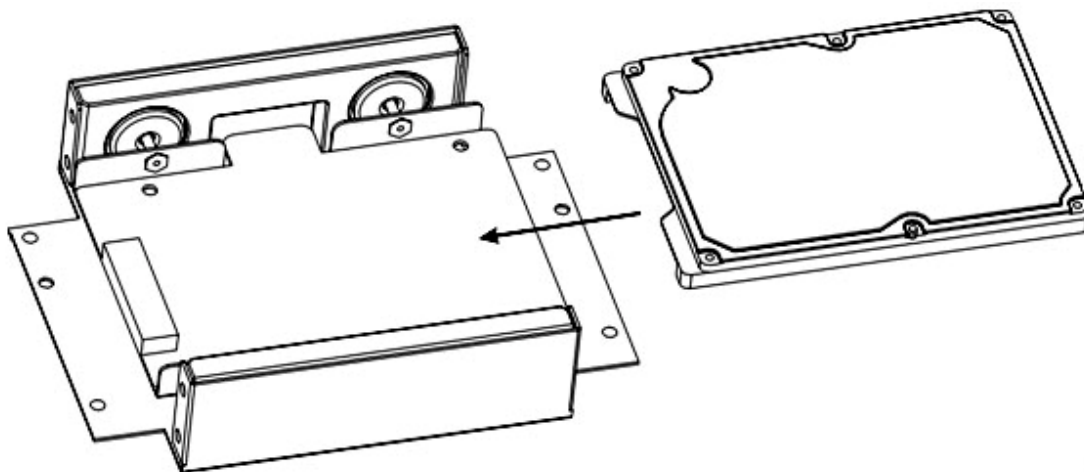

Figure 2-17
3) Now you can see an interface is shown as below after you removed the bracket. Remove the four bolts from the HDD. Follow the direction arrow in Figure 2-17 to install the HDD and secure the bolts.